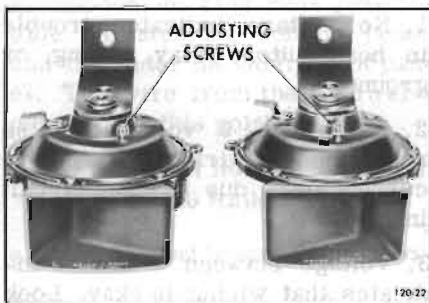

Figure 120-17—Matched Horn Set
3. Adjust to specified current draw if necessary, by turning adjusting screw clockwise to decrease or counterclockwise to increase current draw. Turn only 1/4 of a turn at a time. If adjustment loosens screw excessively, it may be staked with a prick punch. See Figure 120-17.